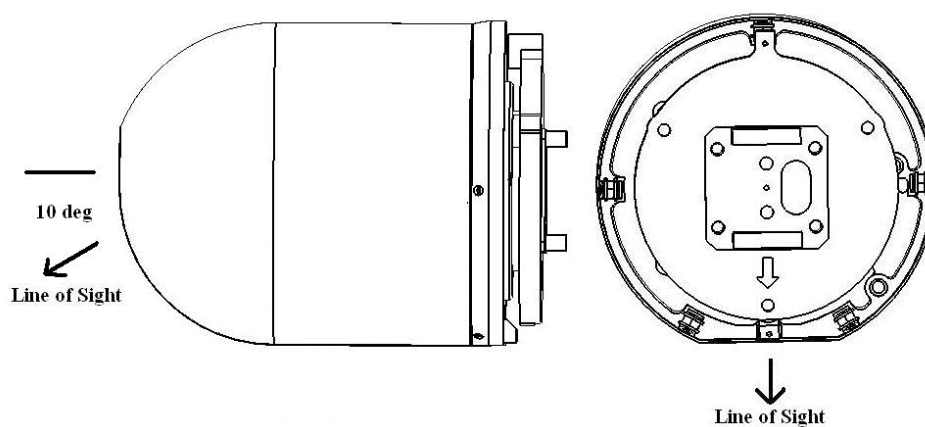

Figure 1 : Pilot Mode Line of Sight
1. The line of sight in Pilot mode is depicted in Figure 1: